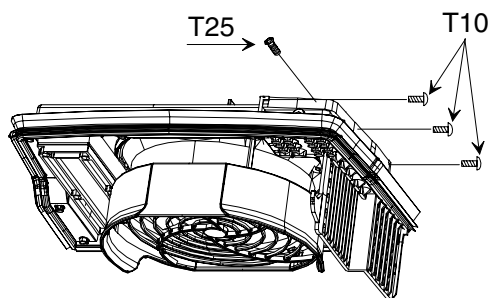

Figure 7. HVMF cooling fan assembly and mounting screws
3. Refit the four fan assembly mounting screws in their respective slots (see Figure 7):